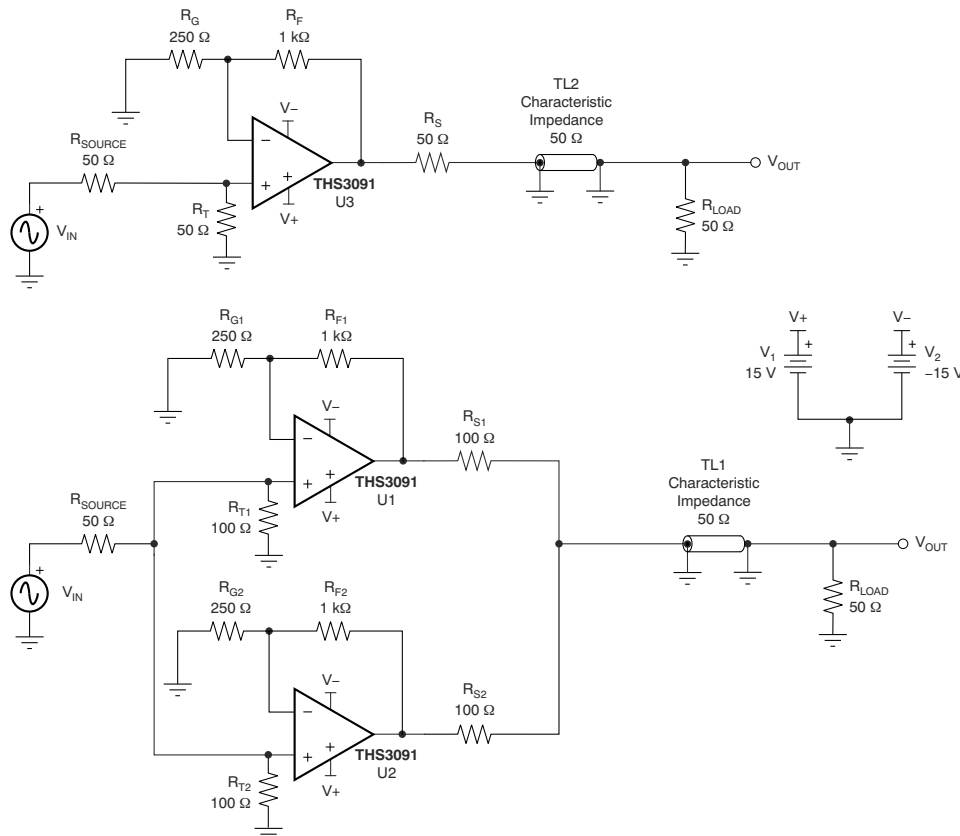

图 9-9. Reference THS3091 and THS3091 Load Sharing Test Configurations
The fundamental concept of load sharing is to drive a load using two or more of the same operational amplifiers. Each amplifier is driven by the same source. 图 9-9 shows two THS3091 amplifiers sharing the same load. This concept effectively reduces the current load of each amplifier by $1/N$, where N is the number of amplifiers.
As shown in Figure 9-9 for example, in a two-amplifier load sharing configuration with matching resistance driving a resistive load (RL), each series resistance is $2 \cdot RL$ and each amplifier drives $2 \cdot RL$. A convenient indicator of whether an op amp will function well in a load sharing configuration is the characteristic performance graph of harmonic distortion versus load resistance. Such graphs can be found in most of TI's high-speed amplifier data sheets. These graphs can be used to obtain a general sense of whether or not an amplifier will show improved distortion performance in load sharing configurations.
Figure 9-9 shows two test circuits: one for a single THS3091 amplifier driving a double-terminated (50- Ω cable), and one with two THS3091 amplifiers in a load sharing configuration. In the load sharing configuration, the two 100- Ω series output resistors act in parallel to provide 50- Ω back-matching to the 50- Ω cable.